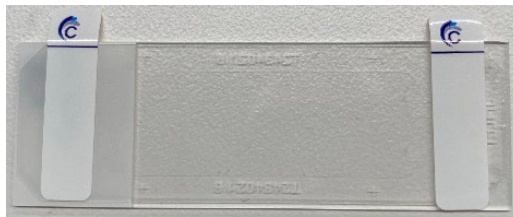

Figure 5. Covering holes of Assembled WSIC with sealing tape.
- j. Cover each hole with sealing tape (Figure 5) to prevent evaporative loss. Gently press across the area where the sealing tape meets the inlet and outlet holes to ensure complete seals. The Assembled WSICs can now be stored at 4 $^{\circ}\text{C}$ until ready for use on the CellScape instrument.